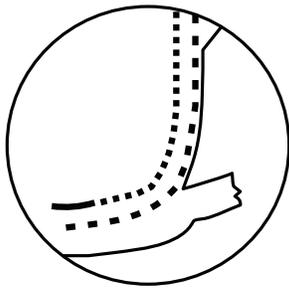

Figure 8
- Trim seam allowances of rounded edges close to the gathering stitches (Figure 8).